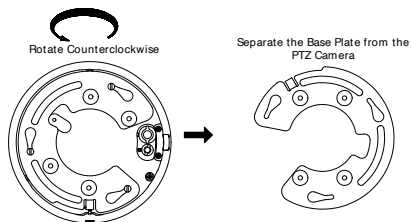

Figure 2-60 Separate the Base Plate from the PTZ camera
1. Rotate the base plate counterclockwise to separate it from the PTZ camera, as shown in Figure 2-60.